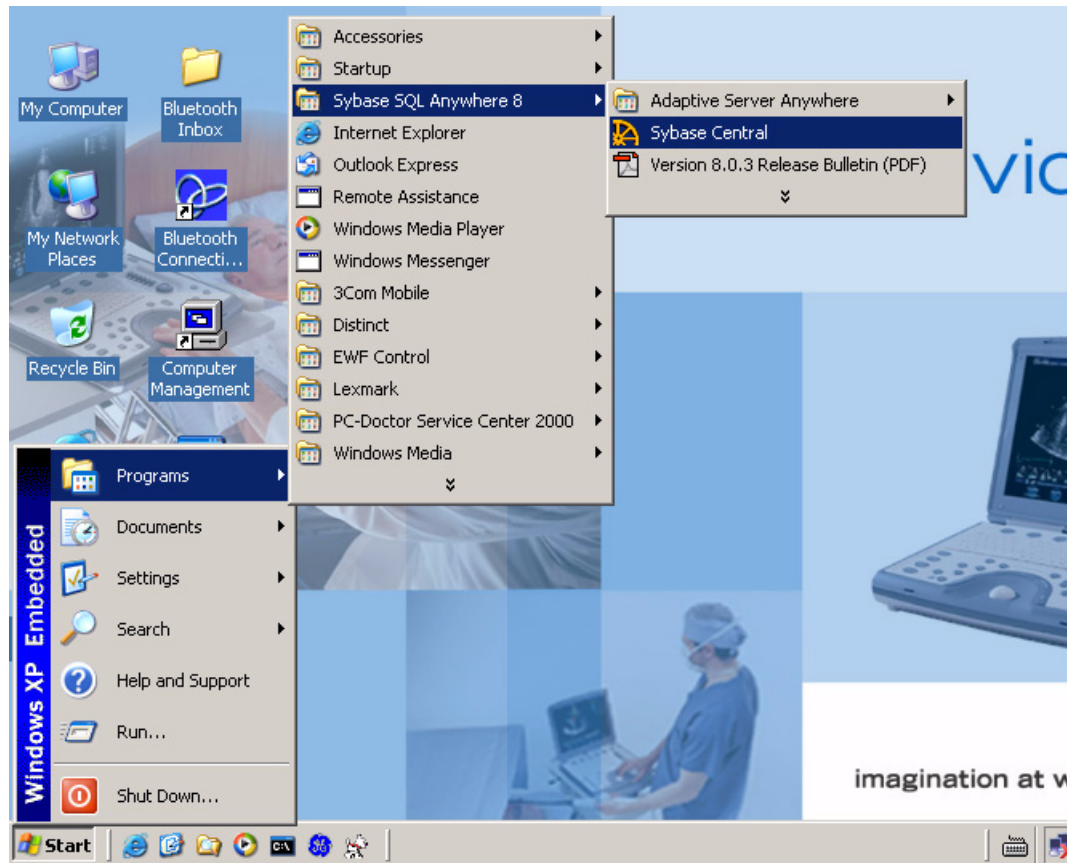

Figure 8-15 Disabling SQL Service
18.) Disable the SQL Service by selecting **Start > Programs > Sybase SQL Anywhere 8 > Sybase Central**, as shown in Figure 8-15 below.